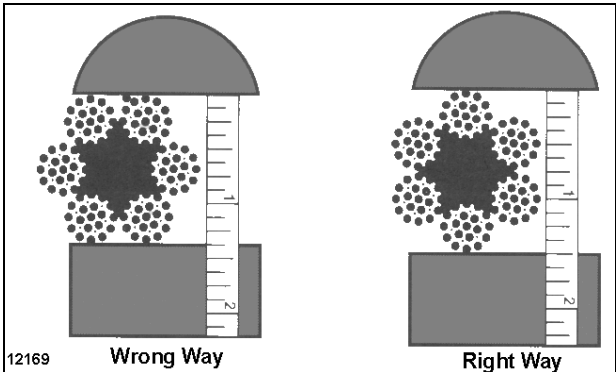

Figure 5-5. Correct Method of Measuring Rope.
- (2) Wear of one-third of the original diameter of outside individual wires.
- (3) Kinking, crushing, or birdcaging.
- (4) Heat damage from any cause.
- (5) Reductions from nominal diameter of more than 1/32" for 7/16" diameter rope or 3/64" for 9/16" rope. See Figure 5-5 for proper measurement techniques.